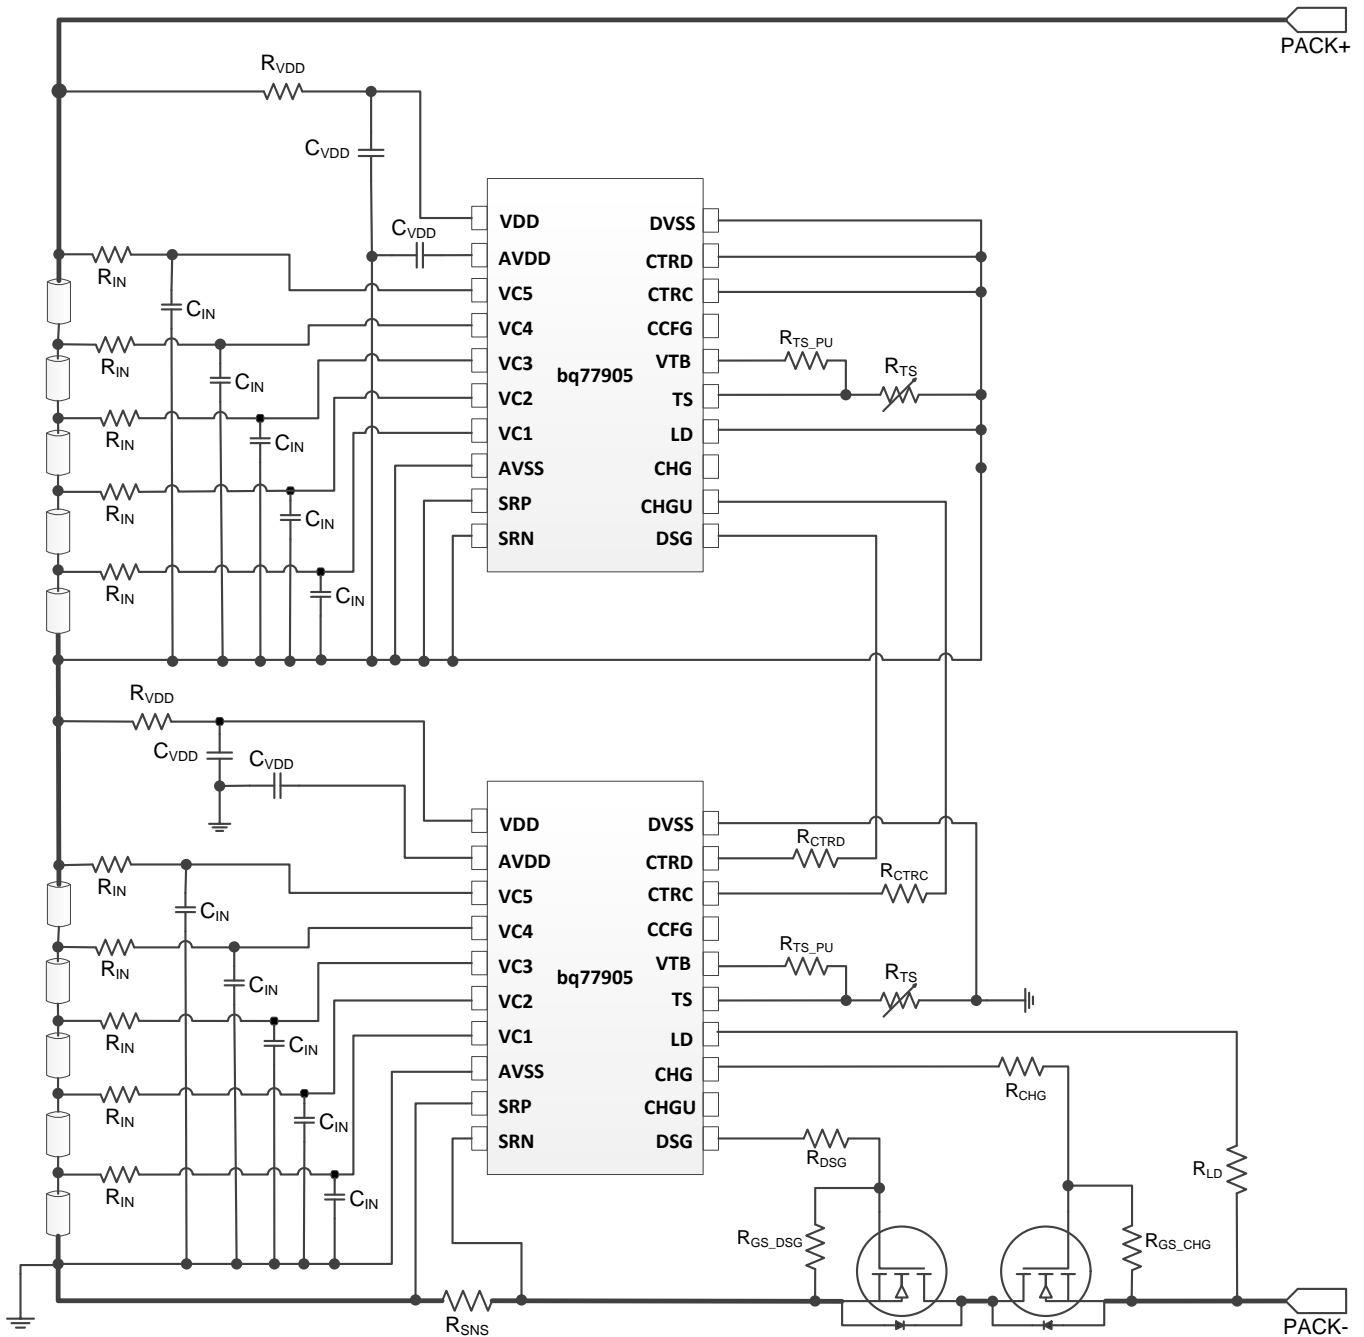
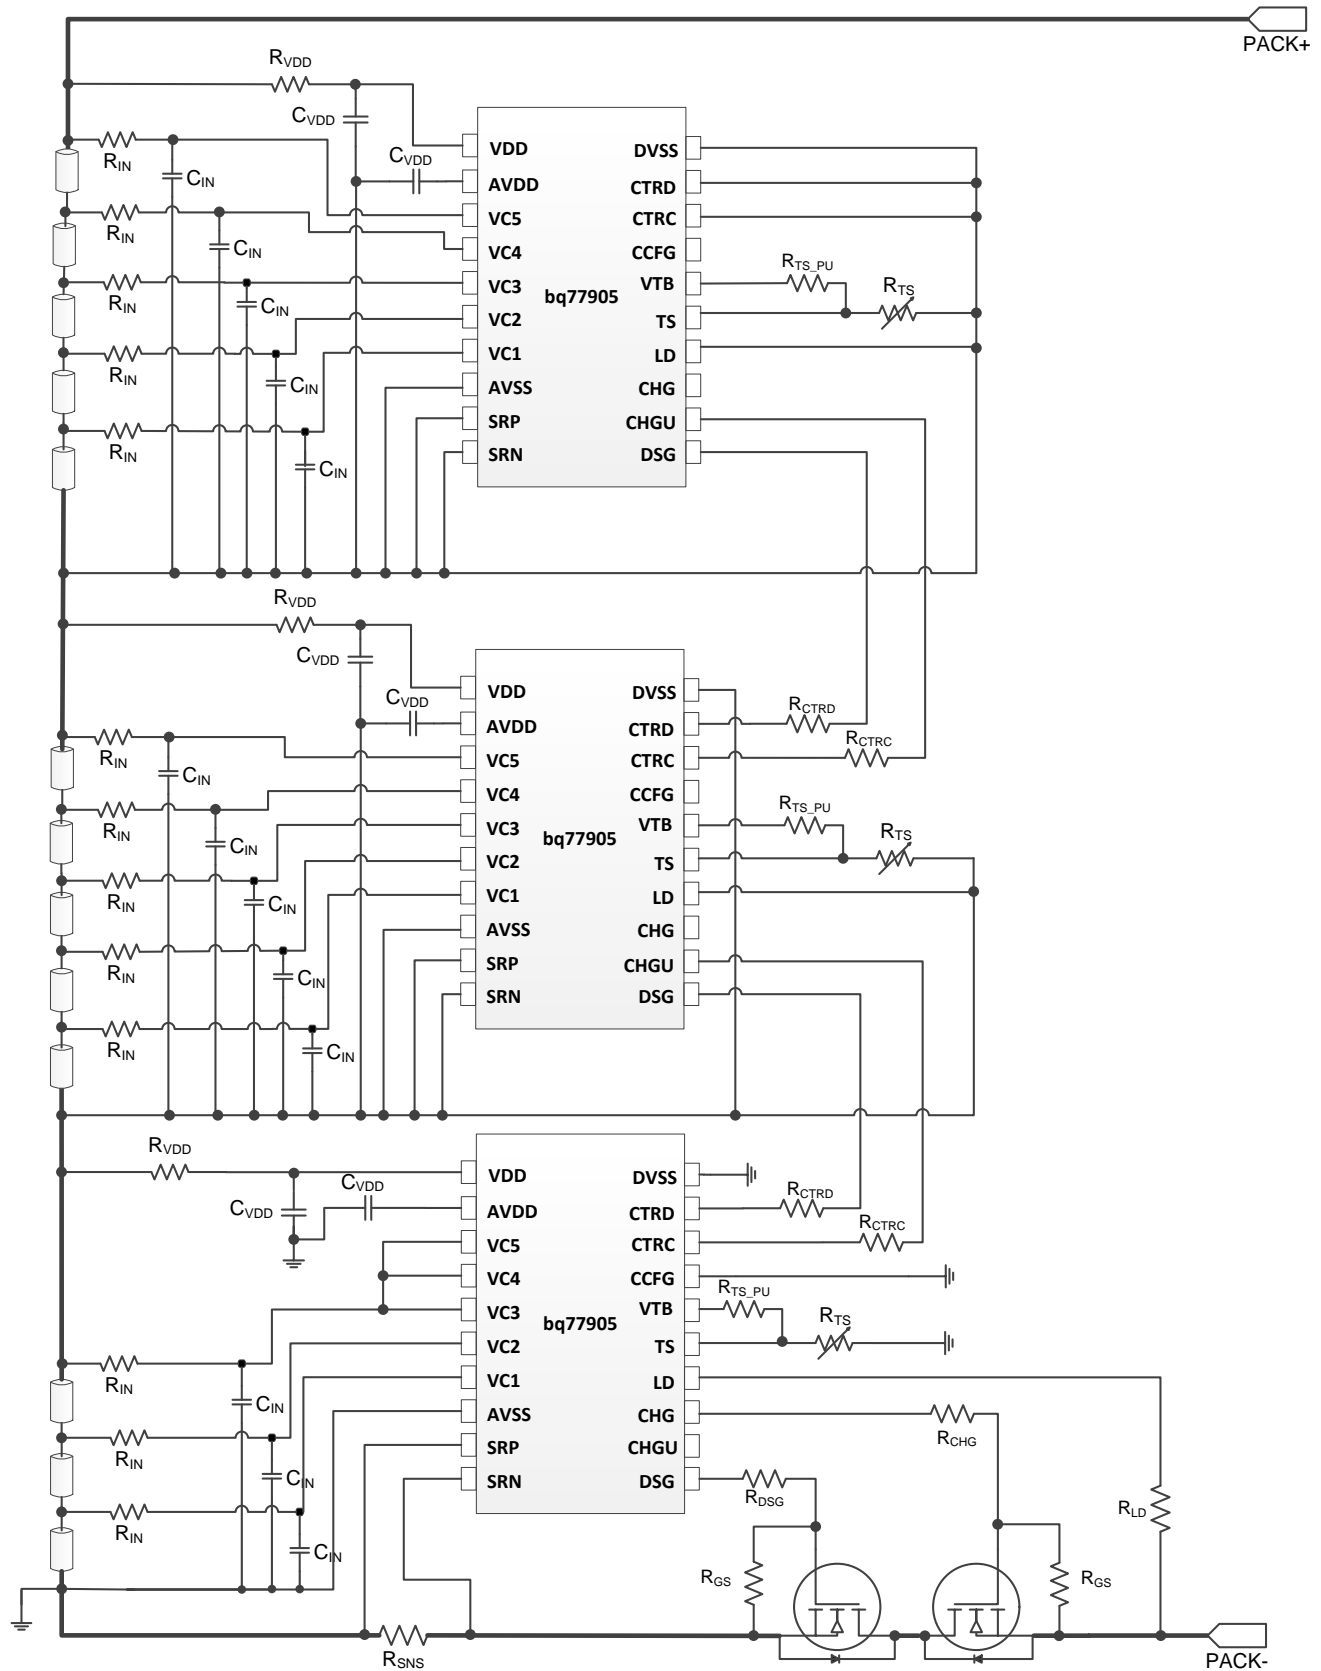
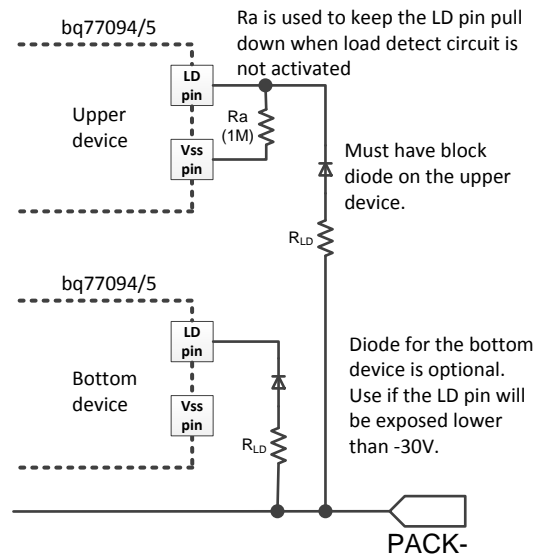

Figure 17. 10S Pack Using Two bq77905 Devices
Figure 18. 13S Pack Using Three bq77905 Devices
Figure 25. Simplified Circuit: LD Connection On Upper Device When Using For UV Fault Recovery
- If load removal is not used for UV recovery, connect the upper device LD pin to its AVSS pin shown in Figure 17 and Figure 18. Otherwise, refer to Figure 25 for proper LD connection.
To ensure load removal is detected properly during UV fault, it is recommended to use 3.3 MΩ for R_{GS_CHG} (instead of a typical of 1 MΩ when load removal is NOT required for UV recovery). R_{CHG} can stay in 1 MΩ as recommended when using CHG FET protection components. The CHG FET rise time impact is minimized as described in the “Protecting CHG FET” section. On a stacked configuration, connect the LD pin as shown in Figure 25 if load removal is used for UV fault recovery. If load detection is not required for UV fault recovery, a larger value of R_{GS_CHG} can be used (that is, 10 MΩ) and there LD pin on the upper devices can be left floating.